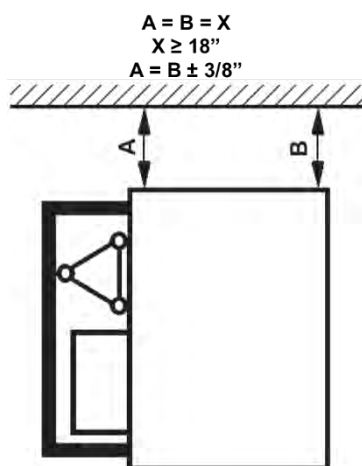
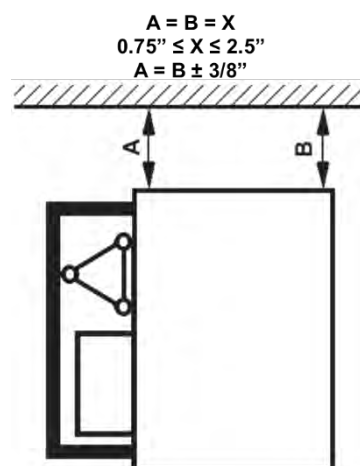

Figure 6.9
Figure 6.10
- **This distance must not be less than 18 in. if installing the unit as a Transport Platform as indicated in ANSI A92.10 as shown in Figure 6.9 (if using landing doors for a transport platform supplied by BETAMAX set the unit 24 inches from the building for the door to function properly); or if installing the unit as a Material Hoist is not greater than 2.5 in. as shown in Figure 6.10 in order to ensure the loading unit passes through with no difficulty and no risk of collision.**